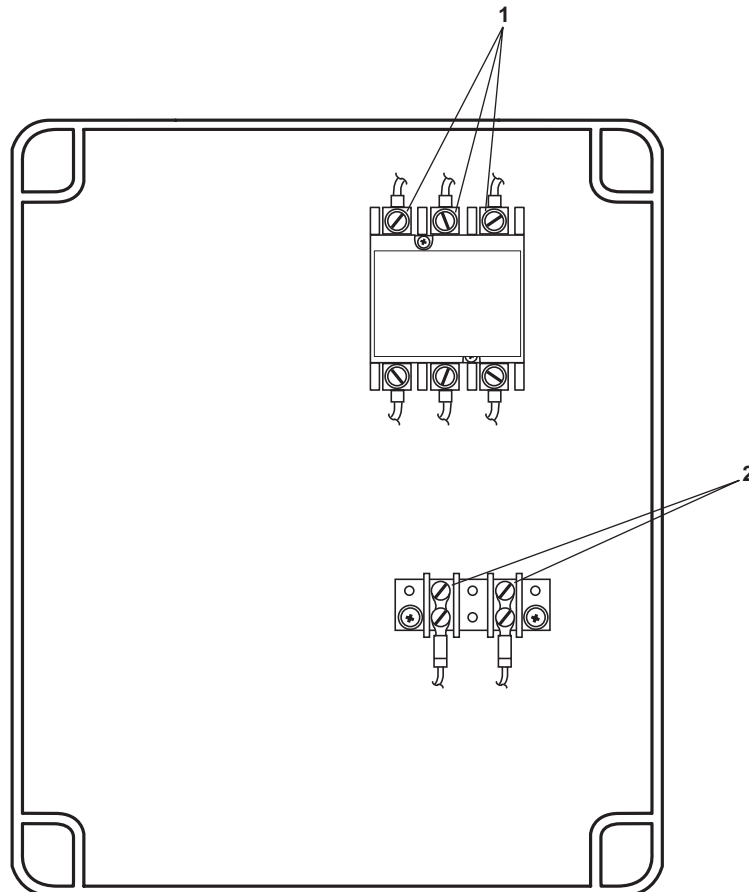

Figure 2. System Controller Terminal Boards
6. Inside the applicable system controller, take voltage readings with a multimeter, measuring across connection points L1, L2, and L3 (figure 2, item 1), and across the INPUT 24VDC terminals (figure 2, item 2). Ensure that all electrical circuits are deenergized. If voltage is present, verify that the correct circuit breakers are set to OFF, locked out, and tagged out (FM 55-502). If no voltage is present, continue with the procedure.